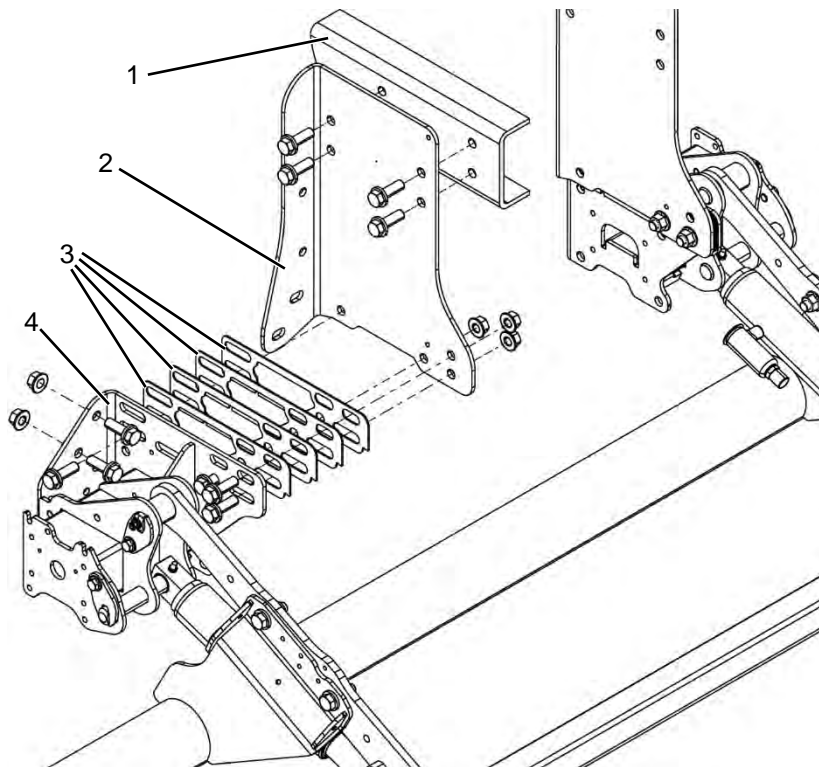

Figure 9: Spacer plates (exemplary presentation)
- ▶ When assembling, use spacer plates between the linkage mount and the screw-on plates to reduce the console's internal dimension to the width of the chassis (exemplary presentation in Figure 9). The number of spacer plates required can be found in the table in the attachment report (attachment diagram).